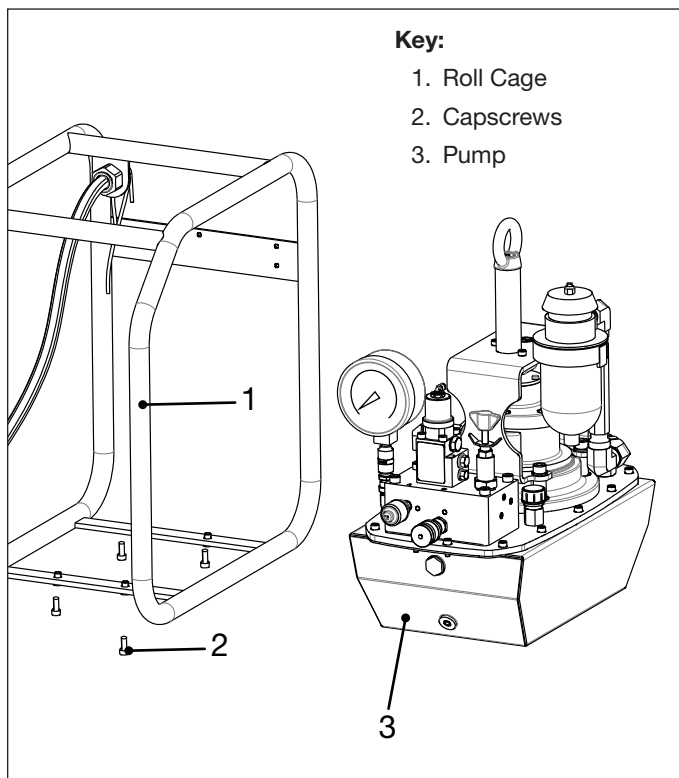

Figure 17: Pump and Roll Cage
8. Remove four capscrews securing the roll cage to the hydraulic reservoir. See Figure 17.
19. Secure the hydraulic reservoir to the roll cage with four capscrews. Apply Loctite 243 thread sealant to capscrews and torque them to 11-13 ft-lbs [14.9-17.6 Nm]. See Figure 17.